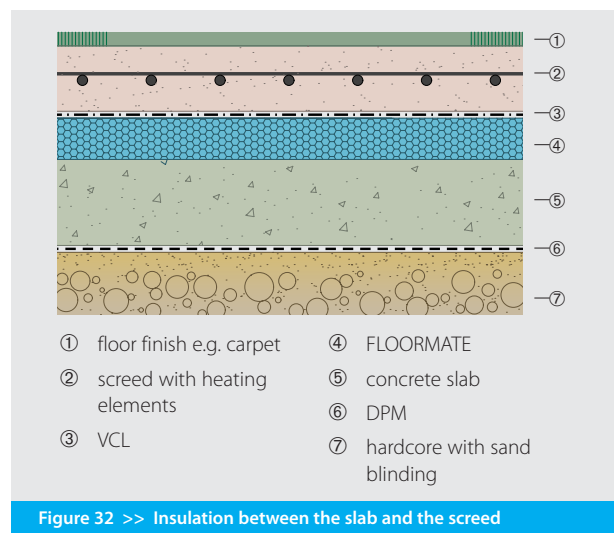

Figure 32 >> Insulation between the slab and the screed
- »» between the slab and the screed (figure 32).